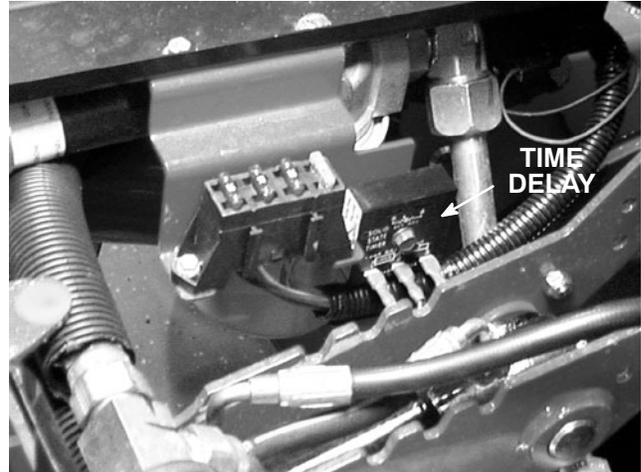

Figure 19
2. Raise seat to allow access to lower reels time delay (Fig. 19).
3. Connect voltmeter across test load and test load to timer. Connect 12VDC source to timer and load. Make sure to observe polarity. After six (6) seconds, there should be no voltage across the load.